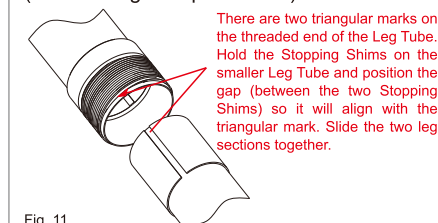

Fig. 11
- ① The Stopping Shims can be cleaned or replaced. (Assembling for Leg tubes and Stopping Shims as shown in Fig. 11) If the shims become wet or dirty, please remove them by unscrewing the leg locks and dry them to prevent damage to the shims. If the shims are damaged, please replace them with new shims.